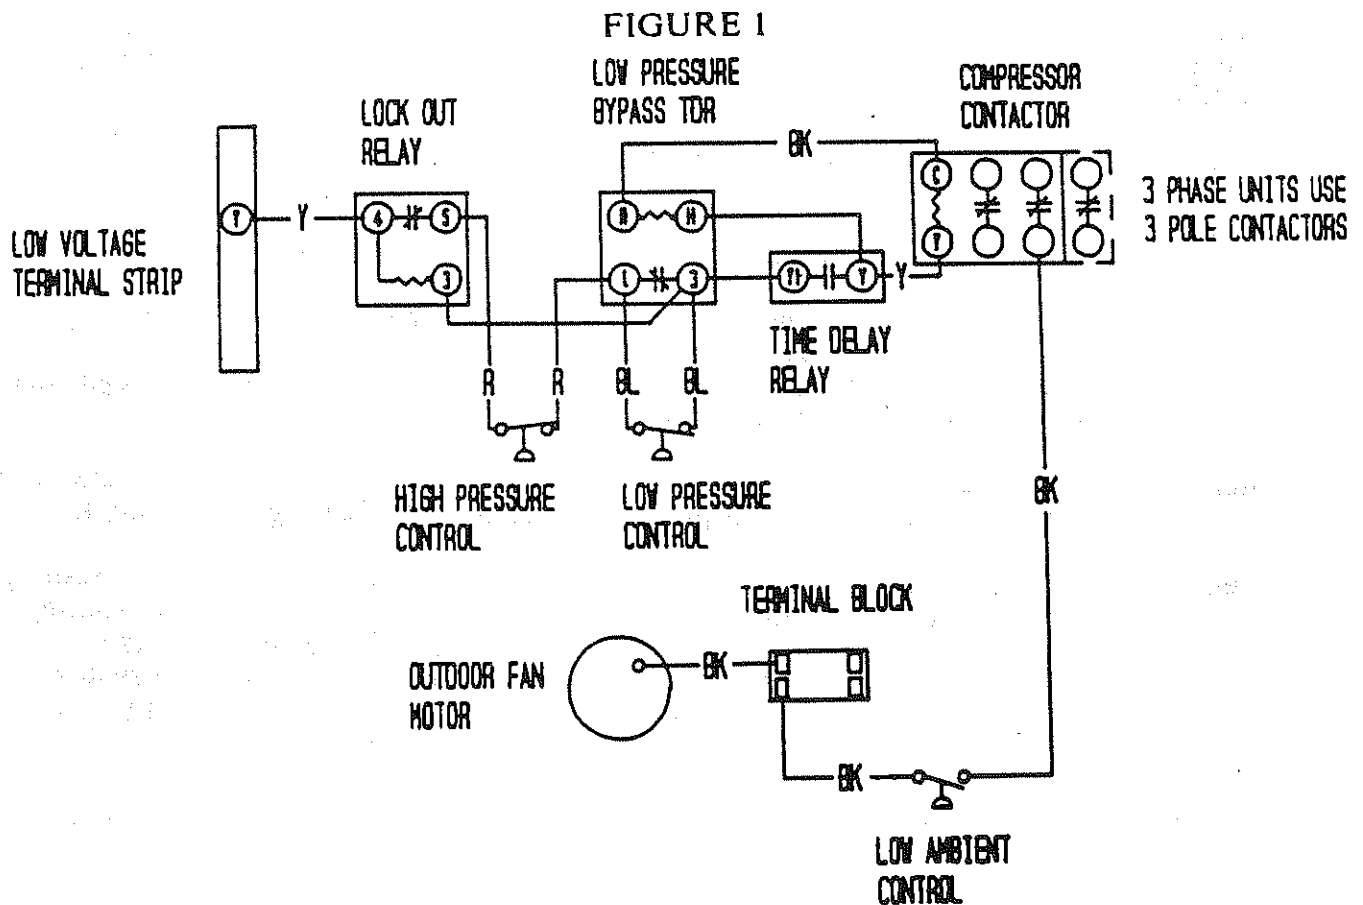

FIGURE 2
- Step 8. Route low ambient control wires up through the bushing in the bottom of the control panel. Replace sealing compound after routing wires through the bushing. Route the wires through the wire holders in the control panel as shown in Figure 2. Connect the low ambient control wires between the terminal block and T2 of the compressor contactor. See Figure 2, Step 8.